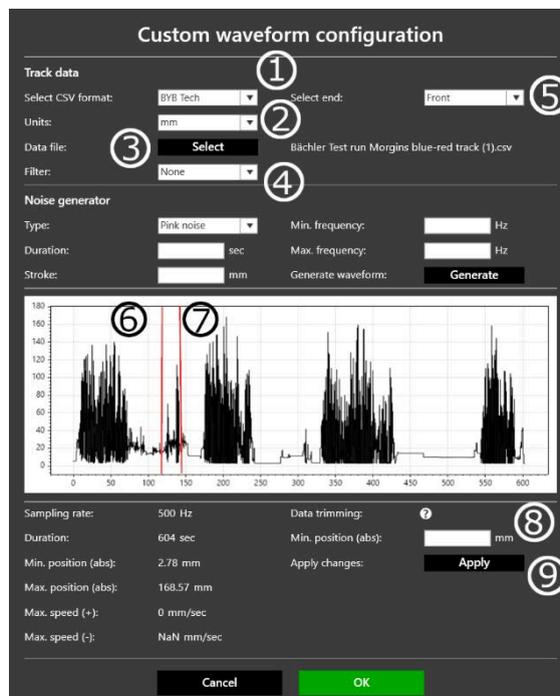

Figure 27
1. Select CSV format according to the telemetry device the user used.(Figure 27 – Step 1)
2. Select units. (Figure 27 – Step 2)
3. Press **Select** and select the file you want to use for the test.(Figure 27 – Step 3)
5. Select filtering (optional). (Figure 27 – Step 4)
6. Select the end – front or rear (Figure 27 – Step 5)
7. If the user does not need to simulate the whole file, he is allowed to trim the it. To do that, press and hold shift-key, set the first trimming line on the desired place of the curve (Figure 27 – Step 6), then, while the shift-key is still being pressed, set the second trimming line (Figure 27 – Step 7)
8. The user is also allowed to manually set the minimum position of the damper (Figure 27 – Step 8)
9. Press **Apply** (Figure 27 – Step 9)